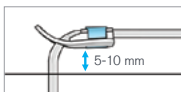

FIGURE 6
5. Replace the retention plate allowing free movement of 5 to 10 mm. Apply a Y-dressing. A plaster fixation is recommended for agitated patients. (Figure 6)